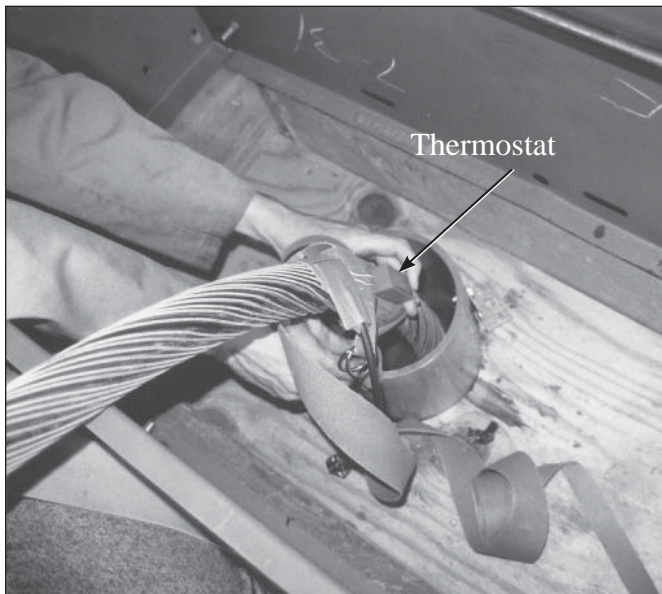

Figure 1.
- Attach the thermostat end of the Cable Training Tool securely to the cable using D-ring straps as shown in Figure 1.